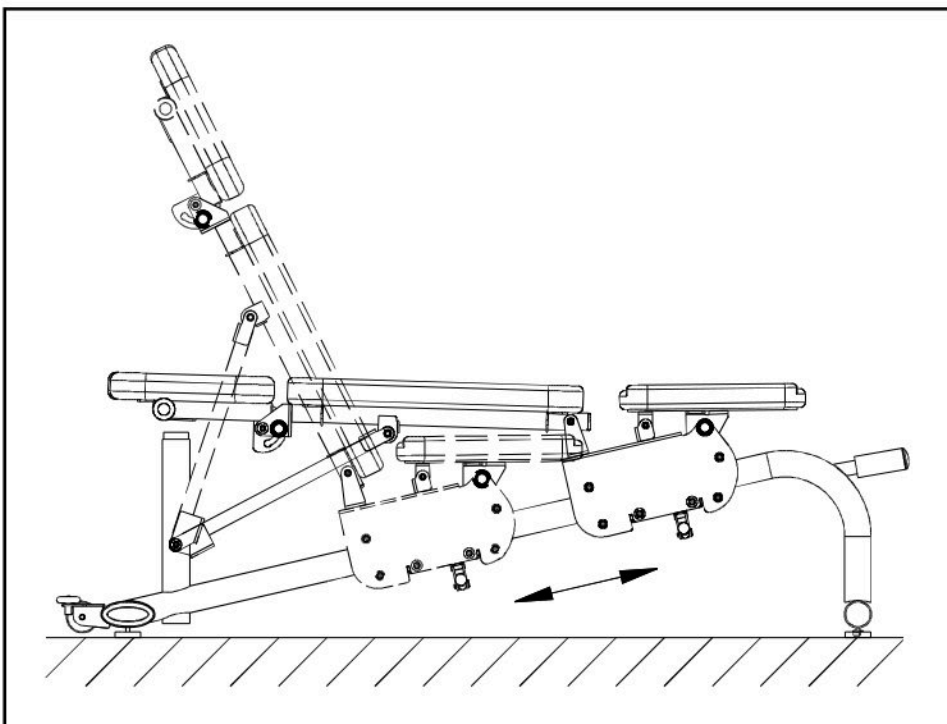

Fig.2
2. The seat slides forward or backward. See Fig. 2. Note: the user cannot be seated while adjustments are made to the seat position.